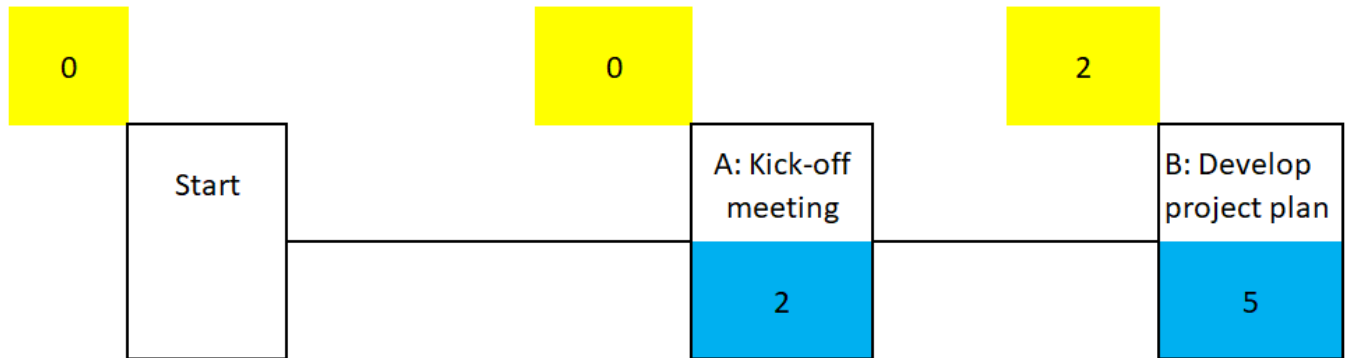

Figure 3. The earliest start time indicated on the nodes.
For an activity to commence at its earliest start (ES) time, all predecessor activities must be completed. For example, Figure 3 illustrates activity A (the kickoff meeting) as the first activity of
the project. The earliest start time is always zero, which indicates the start of the project. When drawing an AoN diagram, it is standard practice to insert a start node to indicate that the first activity (in this instance, Activity A) is not preceded by any other activities – the early start time of the start node is 0. The first start of the second activity and successor activities is determined by adding the predecessor activity's start time of the predecessor activity to its duration. In Figure 3, the earliest start time of Activity B is 2, therefore, **the ES + duration**, i.e., $0 + 2 = 2$.